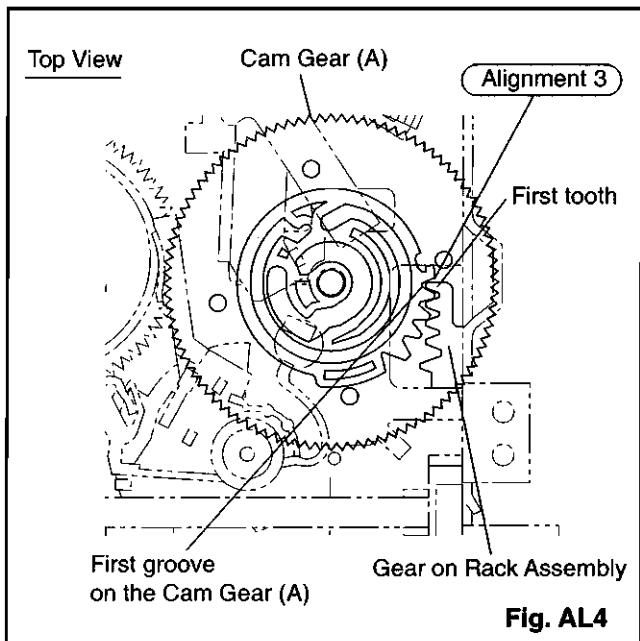

Fig. AL4
Install the Rack Assembly so that the first tooth on the gear of the Rack Assembly meets the first groove on the Cam Gear (A) as shown in Fig. AL4.